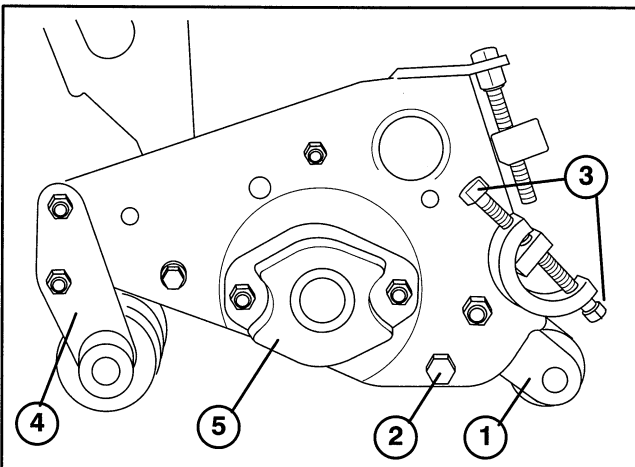

Figure 9
1. Remove capscrew and nut anchoring the rear roller height-of-cut bracket to the side plate on both ends of the cutting unit (Fig. 9).
4. Remove the bedbar mounting bolts from each end of the cutting unit (Fig. 9). Then loosen the bedknife adjusting screws at each end of the cutting unit (Fig. 9). The bedknife assembly can then be removed by rotating it away from the reel.
1. Remove the locknuts securing the front roller brackets to the sideplates at both ends of the cutting unit (Fig. 9).
A. Remove the mounting nuts from the counterbalance end cap and remove end cap from the mounting studs (Fig. 9).